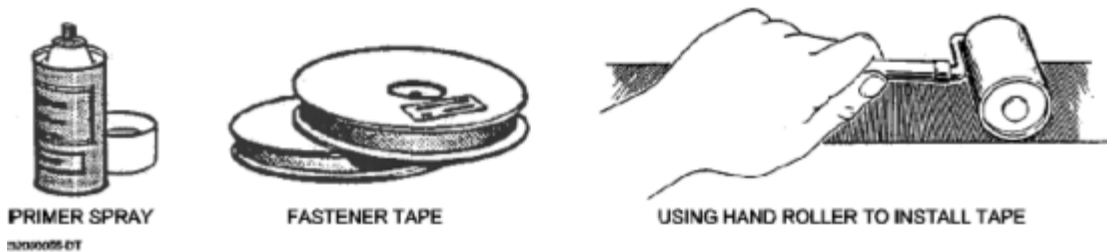

Figure 2-12. Fastener Tape Preparation.
- b. Spray a heavy coat of tape primer on the cleaned areas along the strip where the fastener tape will be applied. Allow primer to dry thoroughly (follow the directions on the primer can) before applying the fastener tape. (See Figure 2-12.)